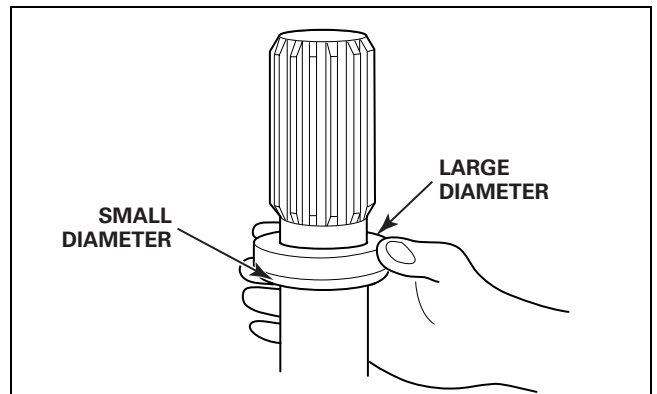

Figure 8.22
4. Install the new seal onto the spline shaft neck. Ensure that the small diameter side fits onto the splines first. Figure 8.22.